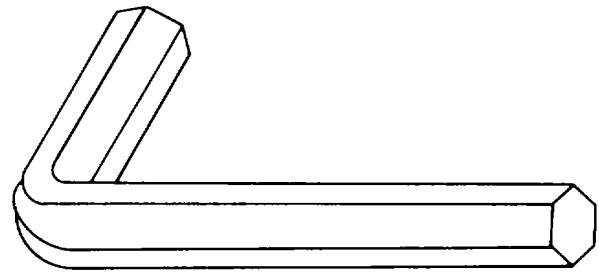

Figure 4-31. Hexagonal Setscrew Wrench (Allen Wrench)
(6) *Hexagonal wrenches.* Hexagonal setscrew wrenches (Allen wrenches) are L-shaped, headless, hexagonal bars that range in size from 3/64-to 1/2-inch. A typical Allen wrench is shown in figure 4-31. They are used in tightening or removing screws that have hexagonal recesses.